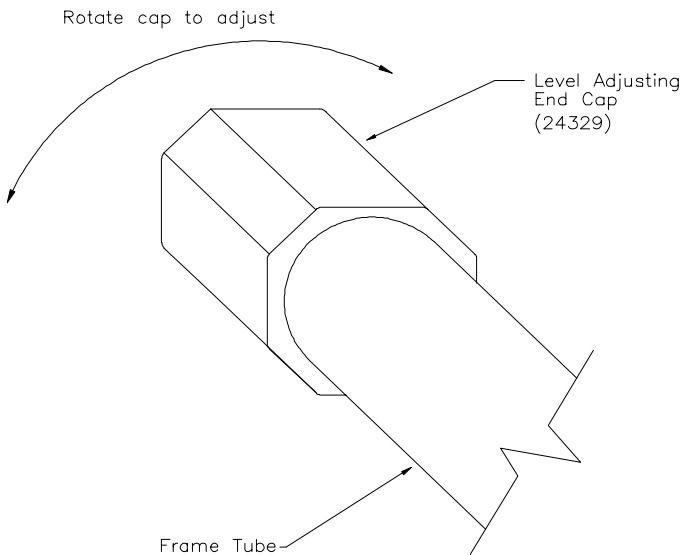

Figure 1: Level Adjusting End Caps
2. The rubber end caps, one on each leg of the machine (see Figure 1), are designed to compensate for uneven floors. Each face of the caps is a different thickness and is numbered. Twist the caps, as needed, to stabilize the machine. Make sure the machine is level before you use it for the first time.